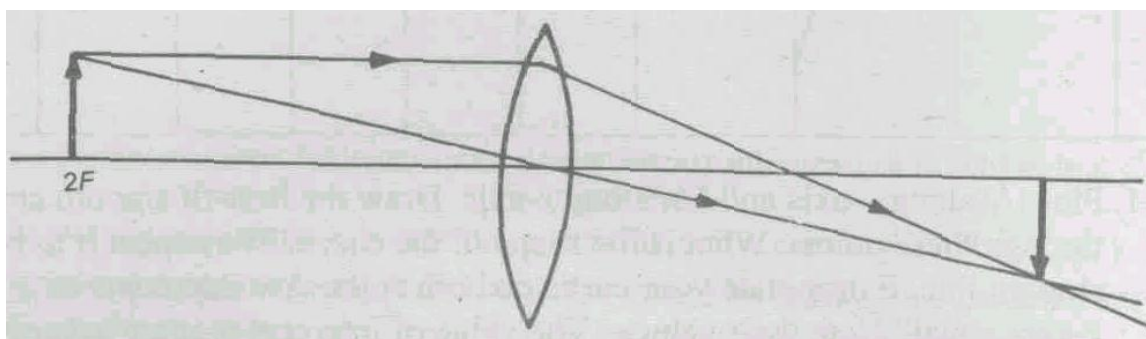

Fig.4.6 Ray diagram for a convex lens when object is placed at  $2F$
5. Mount another pin on the optical bench so that it is on the right hand side of the lens. Place it at the estimated position of the image. Adjust it at the position of no parallax. The ray diagram for this case is shown in Fig.4.6. Make your own Observation Table by drawing columns similar to Observation Table 4.1. Record the positions of the object pin, the lens and the image pin.